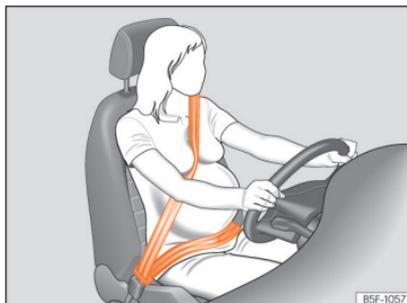

Fig. 17 Position of seat belt during pregnancy.
In the case of **pregnant women**, the seat belt must lie evenly across the chest and as low as possible over the pelvis, never across the stomach and must be worn properly at all times during the pregnancy »» **Fig. 17.**
- For pregnant women, the lap part of the seat belt must lie as low as possible over the pelvis and always lie flat, "surrounding" the stomach»» **Fig. 17.**